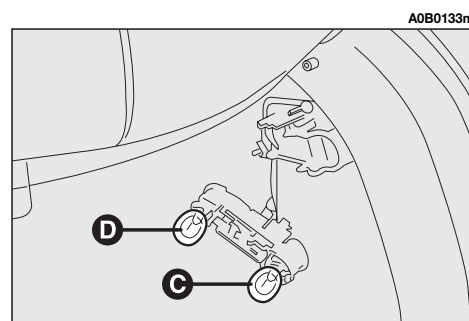

fig. 53
- Remove and replace the bulb concerned (spherical with bayonet coupling) pressing lightly and turning counterclockwise (**fig. 53**):